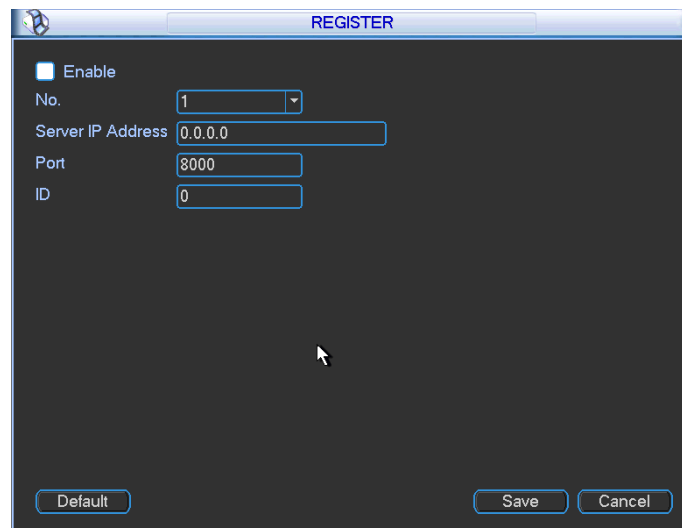

Figure 6-52
1) The setup interface is shown as in Figure 6-52.
- 3) Now you can add device. Please do not input default port number such as the TCP port in the mapping port number. The device ID here shall be the same with the ID you input in Figure 6-52. Click Add button to complete the setup.